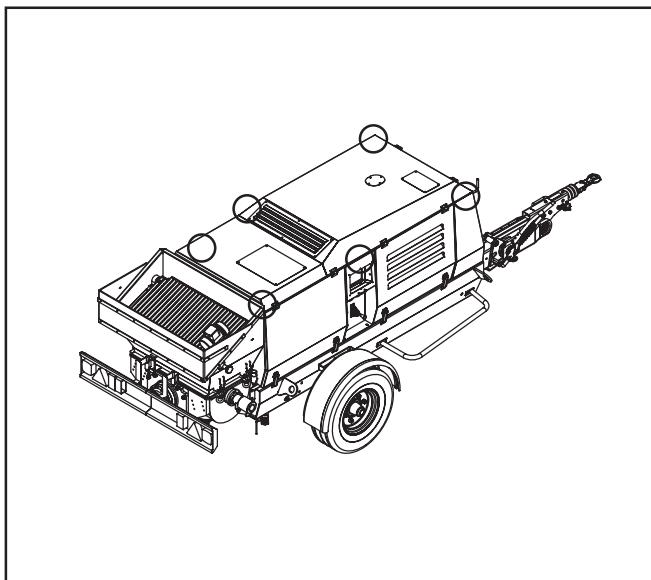

FIG.57
- Remove the fixed bodywork by loosening the screws on the its supports and brackets blocking it to the hydraulic tank (FIG.57).